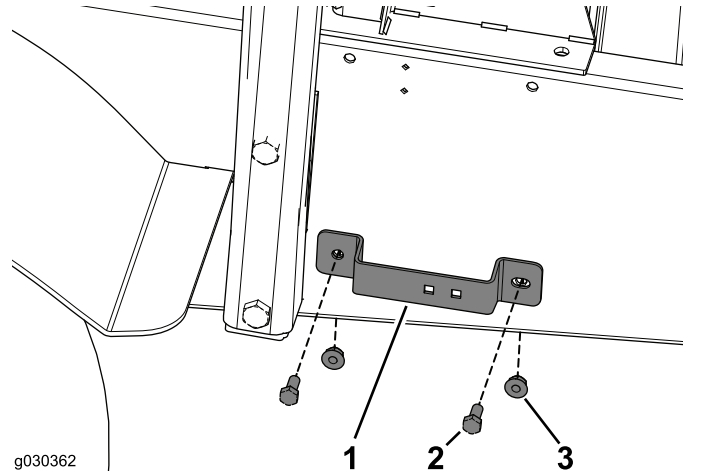

**Figure 38**
3. Route the washer hose and connect it to the washer hose from the cab (Figure 38).